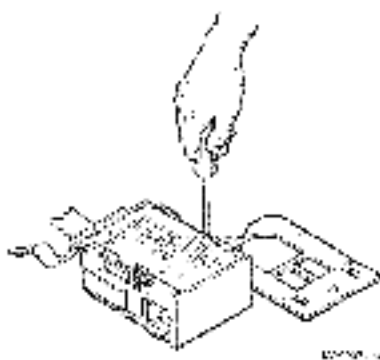

Figure 2-15 Read/Write Head
4. Use a small blade screwdriver to remove the four screws that hold the read/write board to the disk drive (Figure 2-15).
5. Disconnect the P5 connector on the side of the read/write head (Figure 2-15).